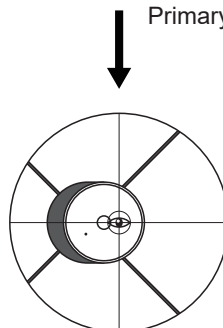

Figure C-5B
3. Rotate the secondary until the reflection of your eye is centered in the crosshair. Slightly tighten the securing nut. Refer to Fig. C-5B.